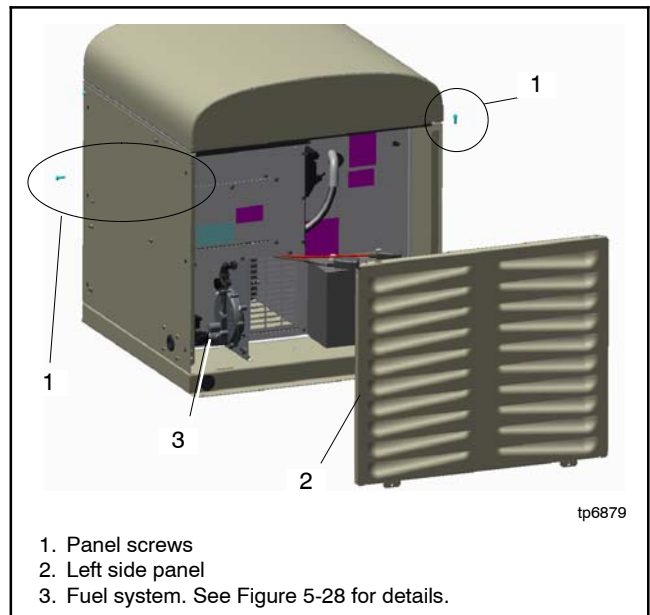

Figure 5-29 Remove Left Panel
5. Remove panel screws and remove left side louvered panel. Figure 5-29.